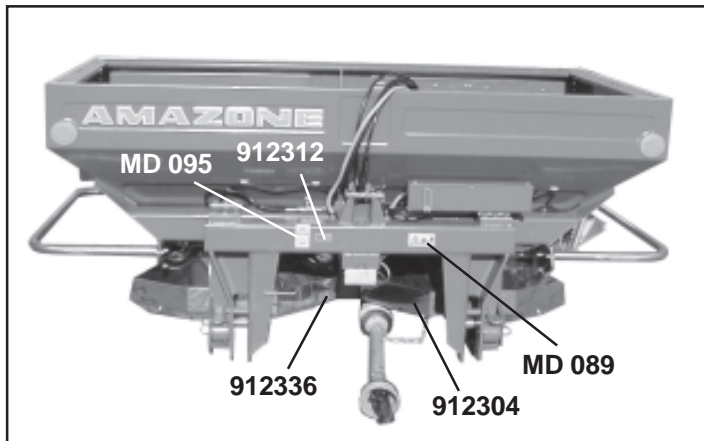
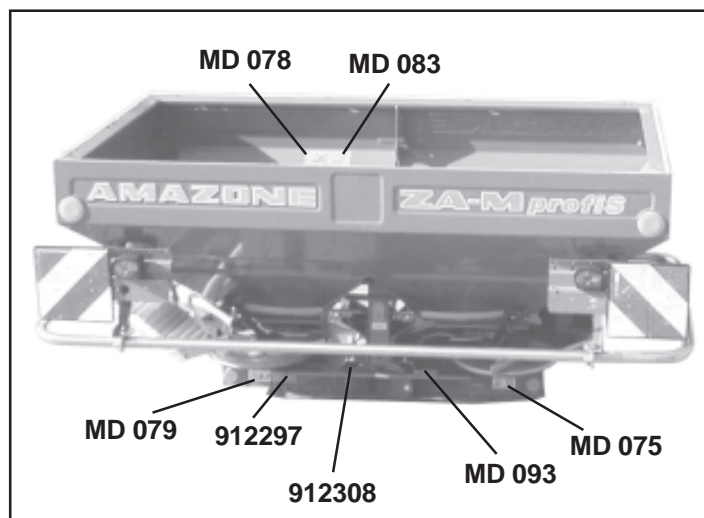

Fig. 2.1
Fig. 2.2
- Fig. 2.1 and Fig. 2.2 show the fixing points of warning pictographs and hint signs. Please refer to the following pages for relevant explanations.